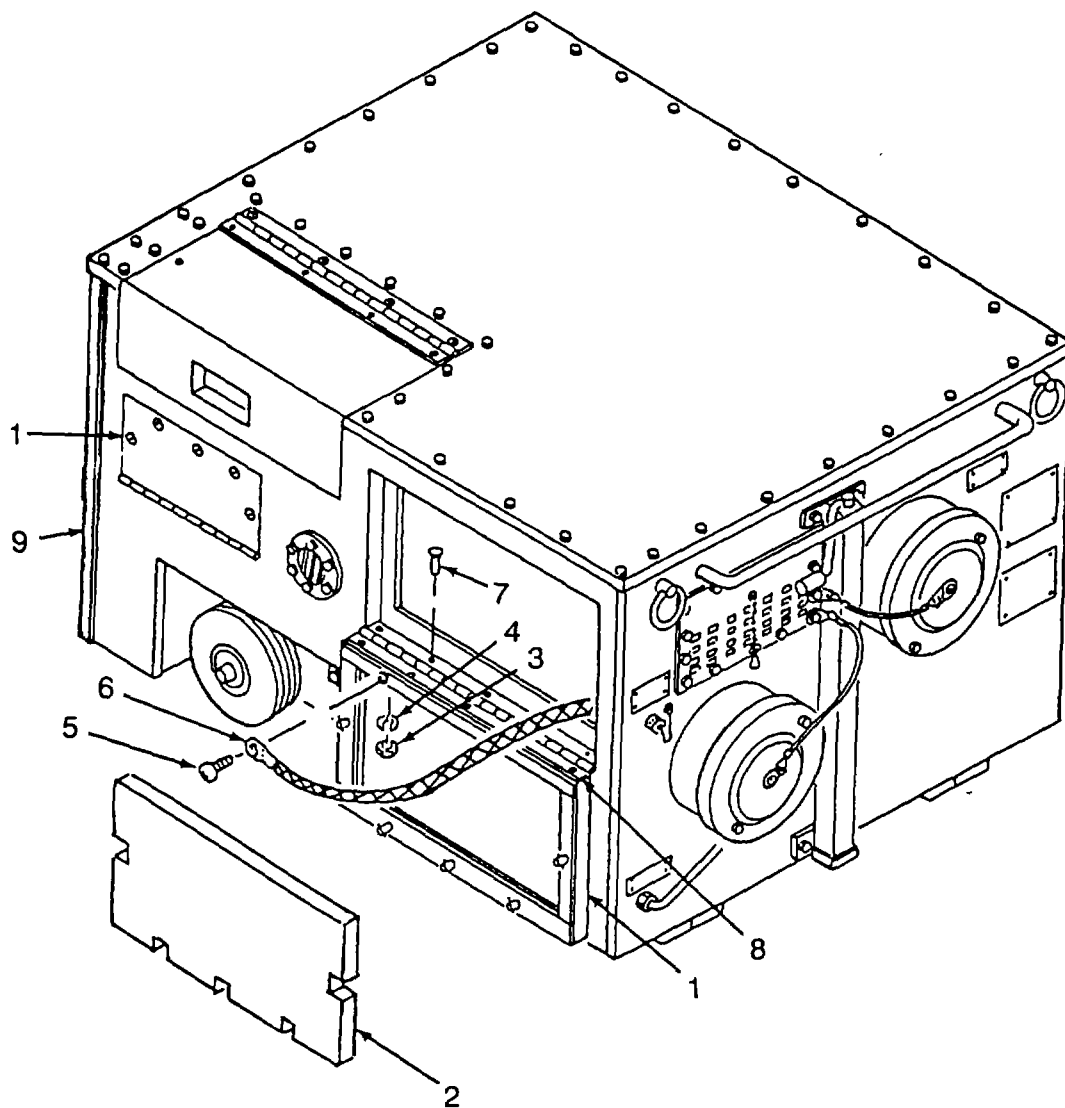

Figure 4-21. Door Removal
- a. Removal. (Refer to Figure 4-21)
- (1) Open door (1).
- (2) Remove insulation (2).
- (3) Remove nut (3), lockwasher (4), screw (5) and ground wire (6).
- (4) Drill out rivets (7) from hinge (8) and frame (9).